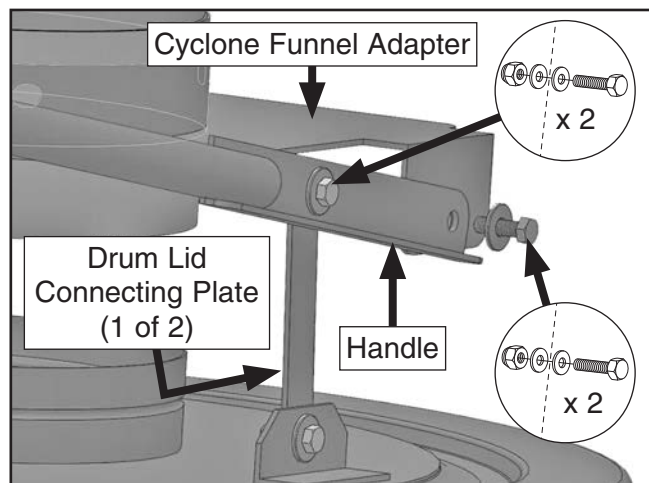

Figure 29. Collection lid handle attached to connecting plate and adapter.
34. Attach collection lid handle to cyclone funnel adapter and drum lid connecting plates with (4) $\frac{3}{8}$ "-16 x 1" hex bolts, (8) $\frac{3}{8}$ " flat washers, and (4) $\frac{3}{8}$ "-16 lock nuts (see **Figure 29**).